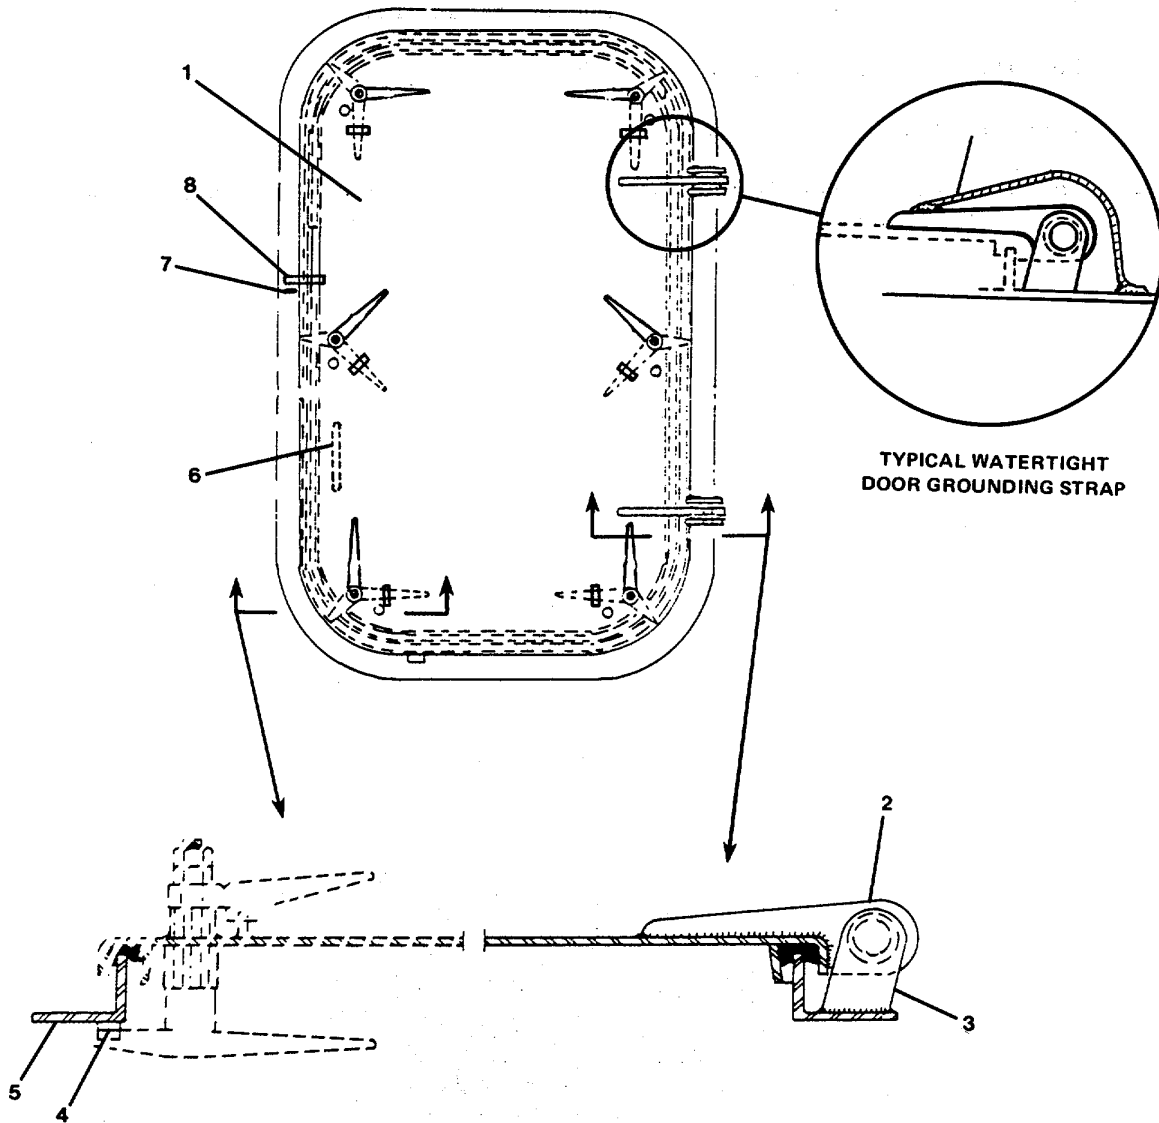

FIGURE 3-172. *Repair Watertight Door. Six Dogs (30 x 60).*
- a. Install frame angle (5) and frame wedge (4) on bulkhead.
- b. Install hinge pad (3) on frame angle (5) and hinge blade (2) on door.
- c. Install grab handle (8) on door.
- d. Install hasp (7) and eye (6) on door.
**3-188. Repair Watertight Door, Six Dogs (30 x 60). (Figure 3-172)**